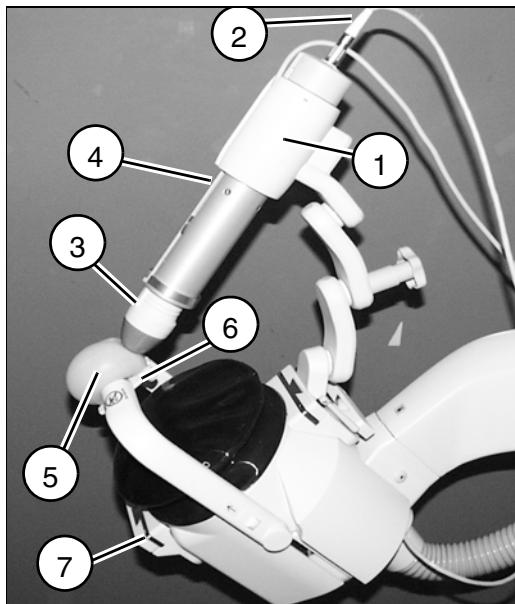
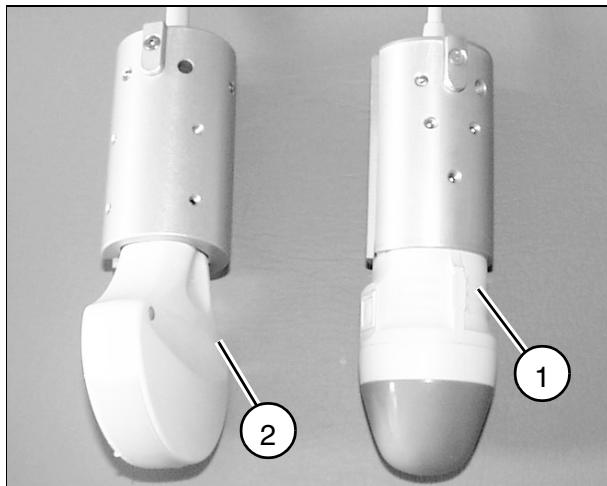
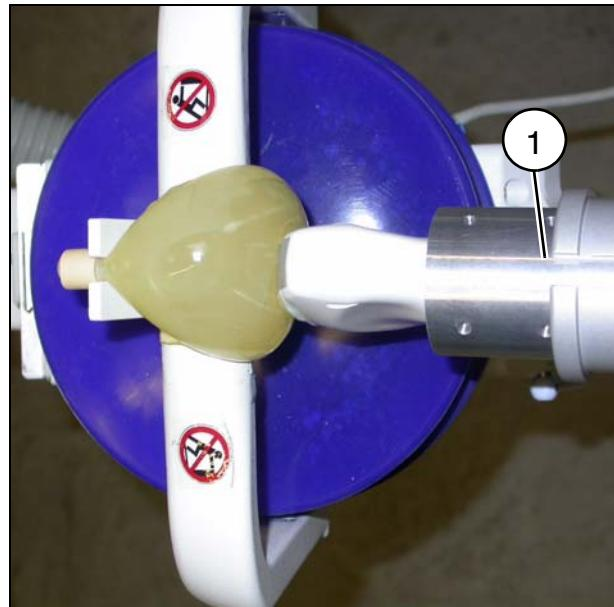

Fig. 1
Fig. 2
Fig. 8
- Fit the holder (1/Fig. 1). (See also Operating Instructions).
- Insert an ultrasound probe (sector probe (1/Fig. 2) or array probe (2/Fig. 2)) into the holder (3/Fig. 1). Carefully insert the probe lead into the longitudinal groove (4/Fig. 1).
- Plug in the lead (2/Fig. 1) and connect the probe to the ultrasound unit.
- Fasten the water bladder (5/Fig. 1) with the holding part (6/Fig. 1) to the isocenter phantom.
- Push the probe so far forwards (3/Fig. 1) until the isocenter cross is approximately in the center of the SONOLINE Prima screen.
- Check that the ultrasound arm is as shown in Fig. 1, if not align it. The longitudinal groove must be visible (1/Fig. 8).